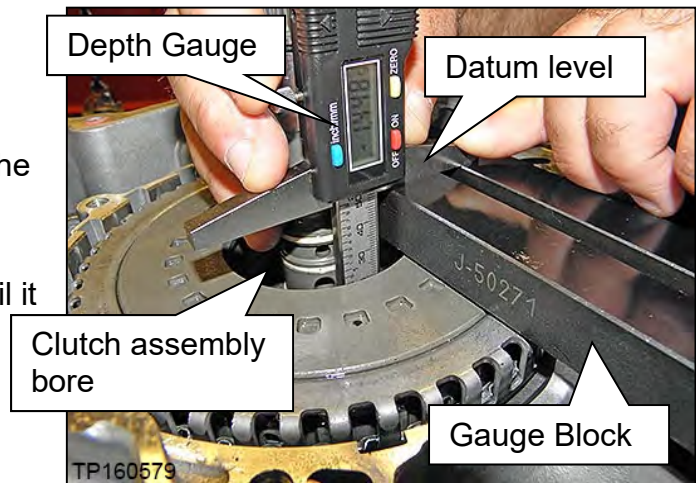

Figure 111
- c. Position the Depth Gauge on the Gauge Block (Figure 111).